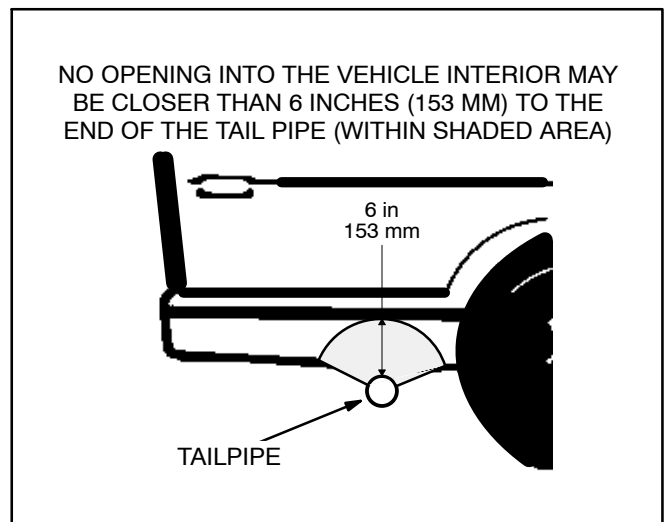

FIGURE 3-5. MINIMUM DISTANCES TO OPENINGS
9. Do not terminate the tailpipe such that it is closer than 6 inches (153 mm) to any opening into the vehicle interior (door, window, vent). See Figure 3-5.